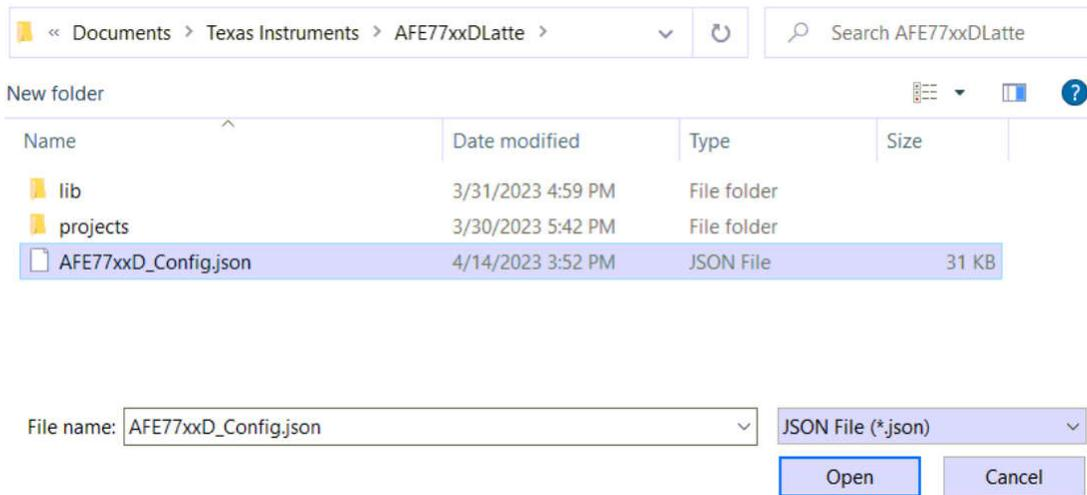

**Figure 4-5. Navigating to AFE77xxD-Params**
- After the Latte software goes through its initialization steps, go to the AFE77xxD Params tab by clicking on AFE77xxD-Params on the left panel of the software window. Figure 4-5 shows how to navigate to the respective tab on the software panel.